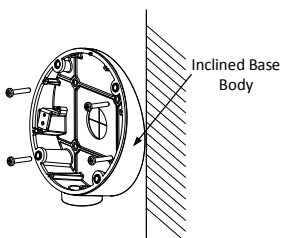

Figure 2-8 Fix the Inclined Base Body
5. Install the inclined base's body on the ceiling/wall with four PA4x25 screws, as shown in Figure 2-8.